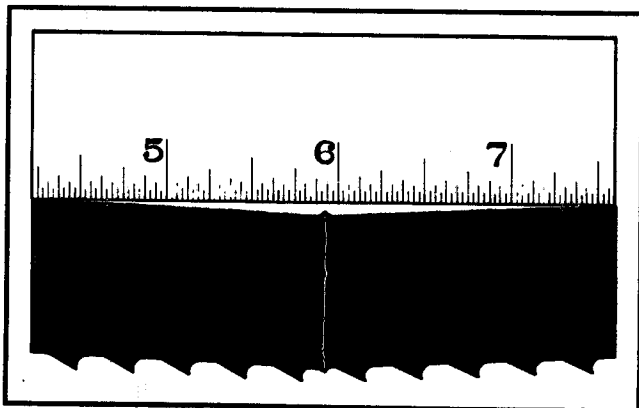

FIG. 9. CHECKING FOR "ROCK".
- (4) Check every weld in the weld area by applying a 6-inch straight edge to the band's edge. This is done to check for a saw band "rock" condition. See Fig. 9. Such a condition is caused by operator improperly inserting band, or misalignment of back-up surfaces.